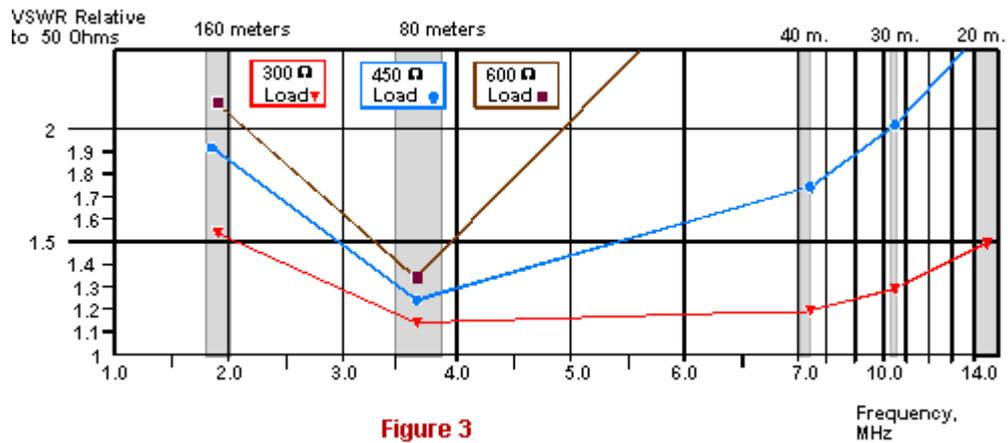

Figure 3
- A VSWR relative to 50 Ohms vs. frequency (**Fig. 3**),
As for a range of 40 meters the RF autotransformer has the efficiency of 65-35 percent (it depends on the transformer's load). As for a range of 30 meters the RF autotransformer has the efficiency of 52 and 45 percent while this one is accordingly loaded to 600 and 450 Ohms. The efficiency is more in comparison with RF- transformers shown in **Fig. 3** and **7, Part- I**. Alas, while the autotransformer has a high efficiency, it has a low input resistance and accordingly, a high VSWR! Therefore it is impossible to use a 50 or 75-Ohm coaxial cable together with the autotransformer.
B in Fig. 3) was loaded to 300, 450, 600 Ohms. Using different ways the secondary winding (C- G in Fig. 13) was connected to my home brew RF-bridge (this one was described in the reference [1]). My transceiver K-116 fed the RF-bridge. I made a lot of experiments and a lot of data for using of the ATX-33T by way of an RF transformer were obtained. Most interesting data will show below.